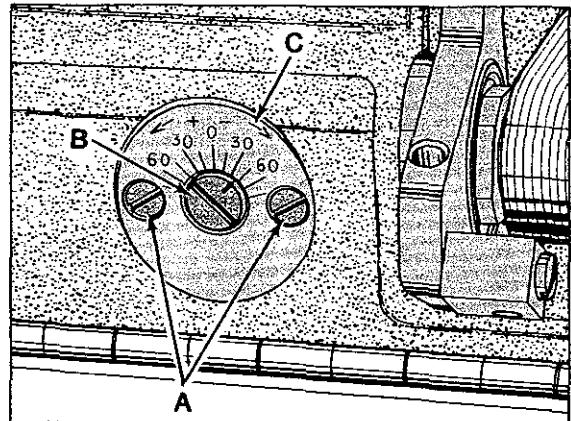

Fig. 9
Machine is equipped with a quick adjustable looper avoid to accomodate extreme differences in needle sizes. If looper avoid requires re-setting, loosen two screws (A, Fig. 9) and turn eccentric stud (B) towards the plus side (counterclockwise) for more looper avoid or towards the minus side (clockwise) for less looper avoid. When desired setting is acquired, tighten screws (A).
If looper avoid requires re-setting, loosen two screws (A, Fig. 9) and turn eccentric stud (B) towards the plus side (counterclockwise) for more looper avoid or towards the minus side (clockwise) for less looper avoid. When desired setting is acquired, tighten screws (A).